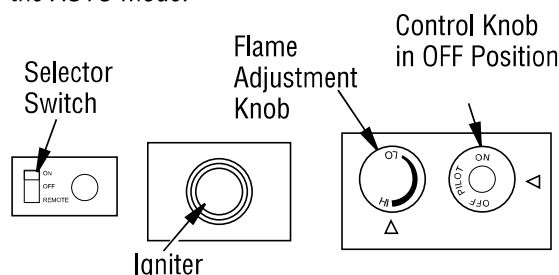

Figure 41 - Control Knob, Igniter Button and Remote Selector Switch
5. Wait five (5) minutes to clear out any gas. Then smell for gas, including near the floor. If you smell gas, STOP! Follow "B" in the safety information, column 1. If you don't smell gas, go to the next step.
6. Press in and turn control knob counterclockwise ↺ to the PILOT position. Press in control knob for five (5) seconds (see **Figure 41, Page 33**).
After lighting, let pilot flame burn for about one minute. Turn control knob to ON position. Adjust flame adjustment knob anywhere between HI and LO. Slide the selector switch to the REMOTE position (see Figure 41).